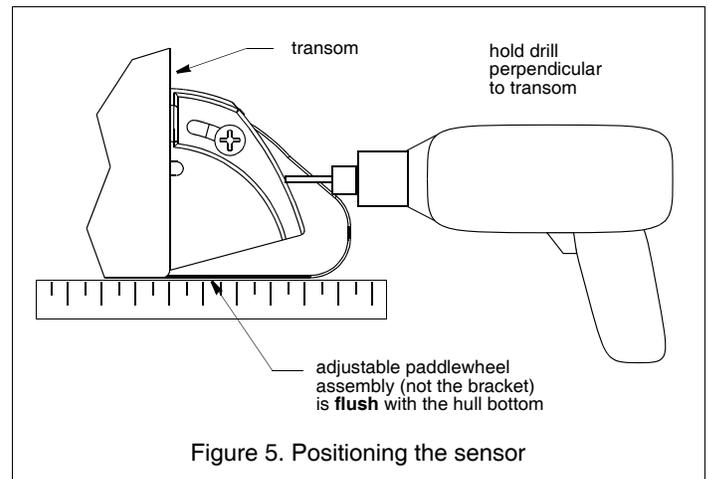

Figure 5. Positioning the sensor
3. Holding a straight edge against the bottom of the hull, position the sensor at the selected location (see Figure 5). **The bottom edge of the paddlewheel assembly (not the bracket) must be flush with the bottom of the hull.** Press the bracket firmly in place. Use additional double-sided tape if necessary.